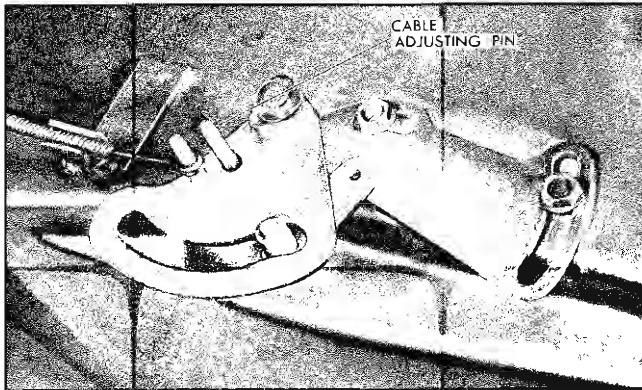

Fig. 12-3 Temperature Control Cable Adjusting Pin In Position
2. Turn temperature control knob to full clockwise (ON) position.
5. Turn temperature knob to full counter-clockwise position (OFF) and insert dowel pin through heater cam into cam bracket (Fig. 12-3).